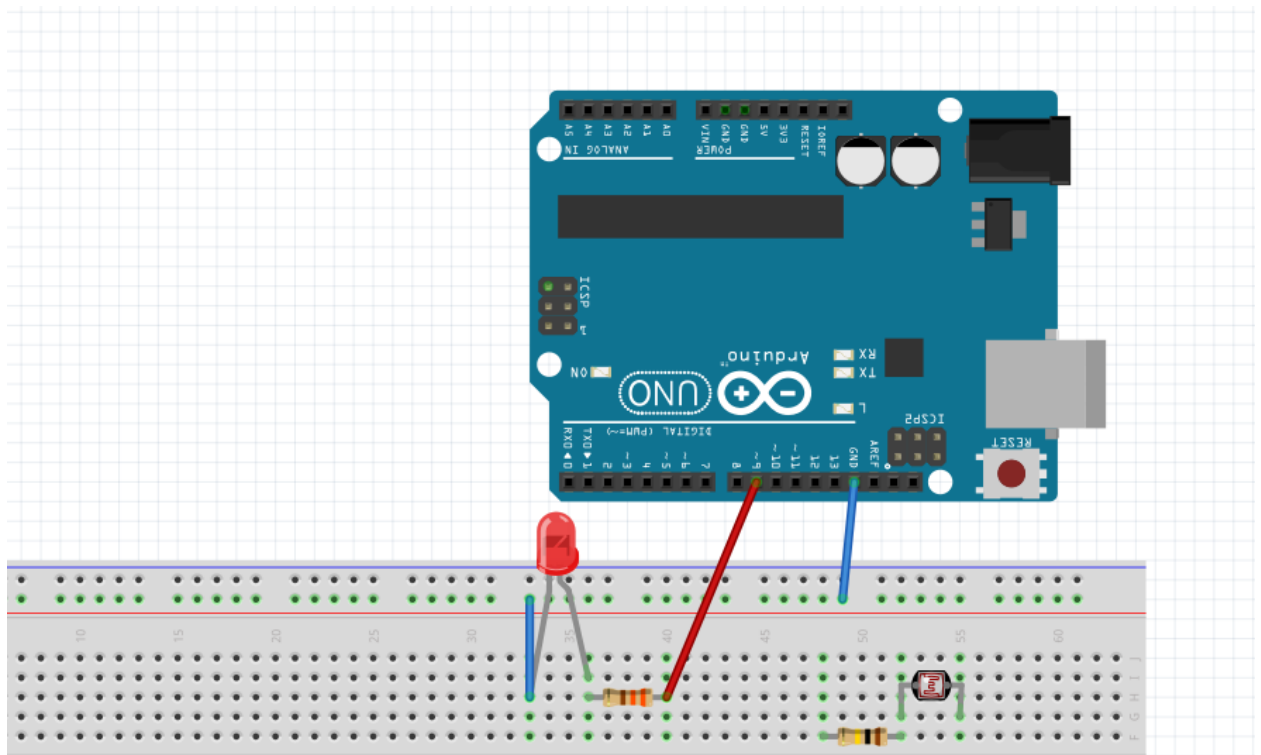

Figure 1.3
2. Now connect the longer leg of your LED to one of the legs of the 330Ω and the other end of the resistor to pin 9 on your Arduino as shown in figure 1.3.